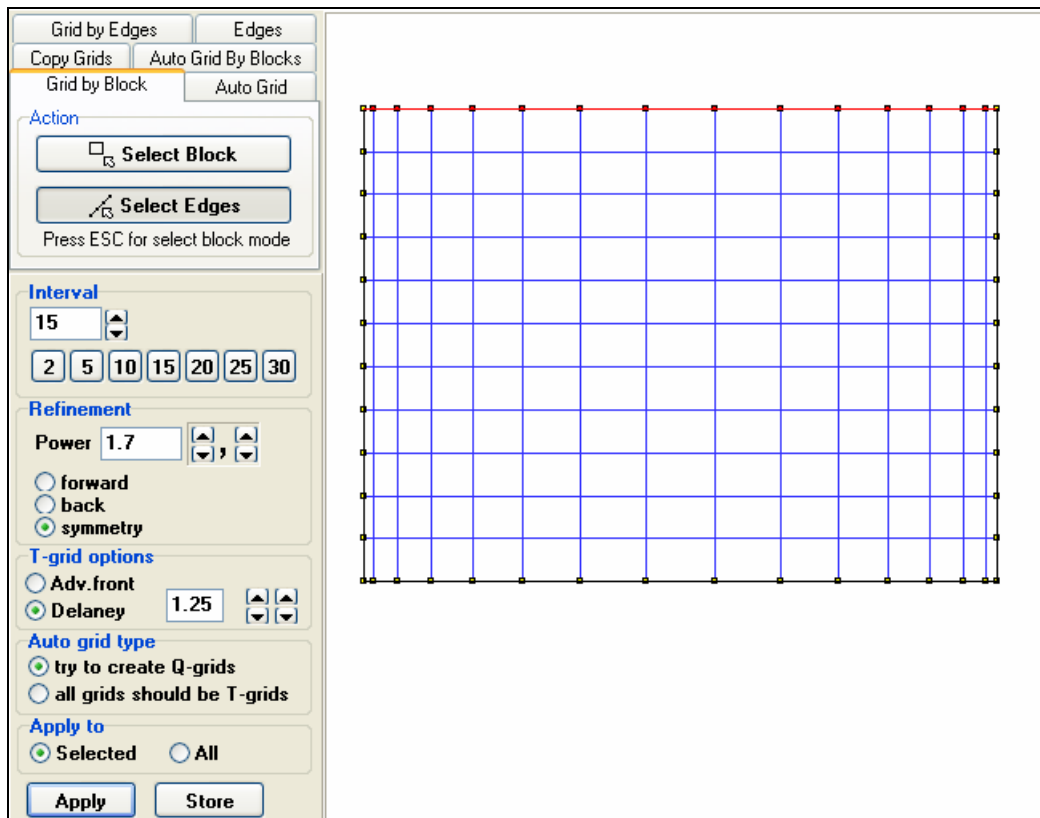

Fig. 6
- Section **Interval**. This section (see **Fig.6**) provides specification of the number of intervals. It contain the following elements:
- Section **Refinement** allows the user to specify a continuous increase of the internodal distance (i.e. distance between consecutive grid nodes) towards some of the edges of the selected boundary or to the center from both edges (see Fig.6). It is only available in the **Grid By Block** mode. It contains the following elements:
- ✓ Text field **Power** specifying the exponent of the power function used to define the internodal distance variation. **Power = 1** corresponds to a uniform point distribution. The higher is power, the more considerable internodal distance increase is applied. Fig.6 presents an example of grid refinement for a **Power** of **1.7**.